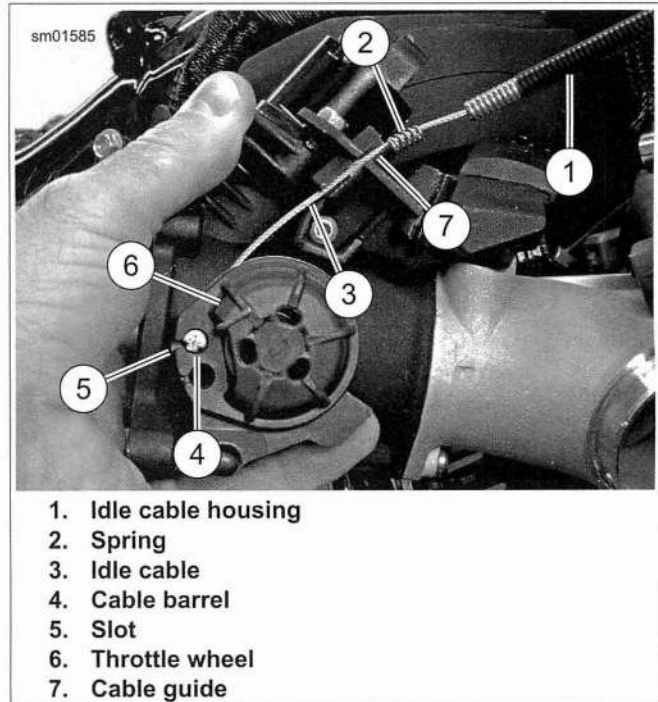

Figure 4-36. Removing/Installing Idle Cable
16. See Figure 4-36. In a similar fashion, remove idle cable (3) from throttle wheel (6):
- a. Lift idle cable housing (1) and spring (2) up out of cable guide (7) in throttle/idle cable bracket.
- b. Slide idle cable (3) out through slot in cable guide.
- c. Unwind idle cable from groove in throttle wheel (6).
- d. Slide cable out through slot (5) and remove idle cable barrel (4) from throttle wheel.